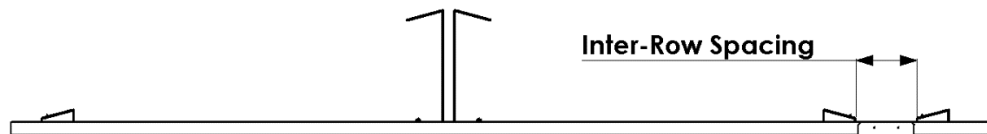

Figure 15 - Inter-Row Spacing
- 9 Click in a Bottom Support at the distance obtained in Step 8, as shown in Figure 15.